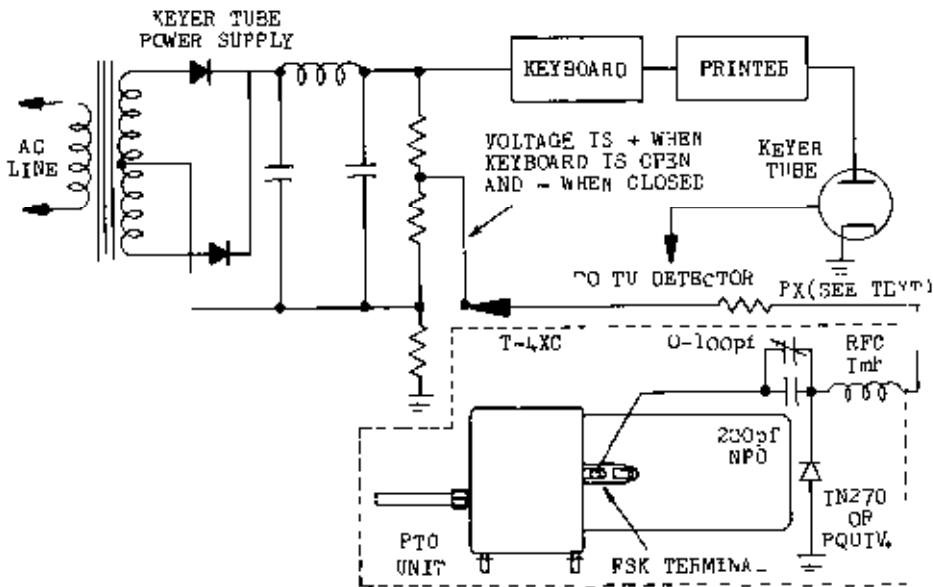

Figure 3-3 FSK Circuit
- An appropriate shift circuit can be connected to the FSK terminal on the side of the PTO. Several shift circuits have been published which accomplish the shift. Some examples of possible keying circuits are described in an article by Irvin Hoff in the May, 1965, issue of QST. The only modification is that instead of connecting the shift capacitor to the "VFO cathode", this point is connected to the FSK terminal on the side of the PTO. Refer to figure 3-3. The FSK terminal on the PTO in the T-4XC is a small lug located between the prongs of the mounting clip on the right side of the PTO as viewed from the front panel.
One example of such a shift circuit is shown in figure 3-3. The capacitor values are based on 850 Hz shift and thus smaller values will be needed for narrow shift. The value of RX should be selected to limit the current through the 1N270 shift diode to about 1 mA.